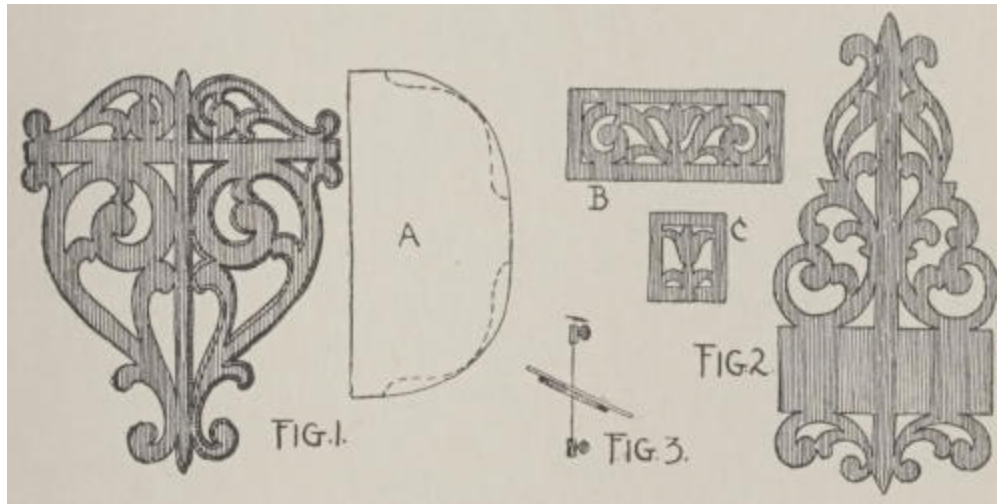

FIG. 1. FIG. 2. FIG. 3.
One of the simplest objects for a beginner to try his skill upon is a wall-bracket such as shown in Fig. 1. A piece of cedar—the bottom and lid of a cigar-box will answer the purpose excellently—from seven to eight inches in length by six and a half in width is a convenient size. The shelf is a semicircular piece either plain or scalloped in front, and its support must be of light, open, but strong design to match one-half of the lower design to the
Most of the modern scroll-sawing machines have movable beds, so that bevel cuts can be made. This is done by tilting the bed or table slightly, as shown in Fig. 3. As a result the work will have a narrower face than the back, as shown at the right side of the bracket in Fig. 1. However, in making the front, or bracket part, there should not be any bevel-cutting, since it would look one-sided. Keep the bed flat in that case, and make the regular cuts for straight work.
The simple bracket shown in Fig. 1 is an easy one to draw, and it may be cut from holly, birch, oak, or any good wood about one-eighth of an inch in thickness. The bracket or front-piece is half the back-plate, omitting the top ornament. The shelf (A) may be rounded, scalloped, or cut serpentine, as indicated by the dotted lines, and the three parts are put together with fine nails, or screws, and glue.